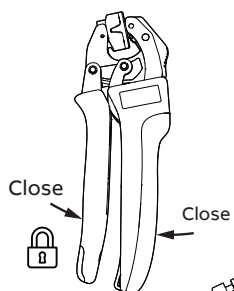

Figure 1
1. Open handles fully. To unlock SHURE STAKE® mechanism, close handles tightly. Release to open handle (Figure 1).